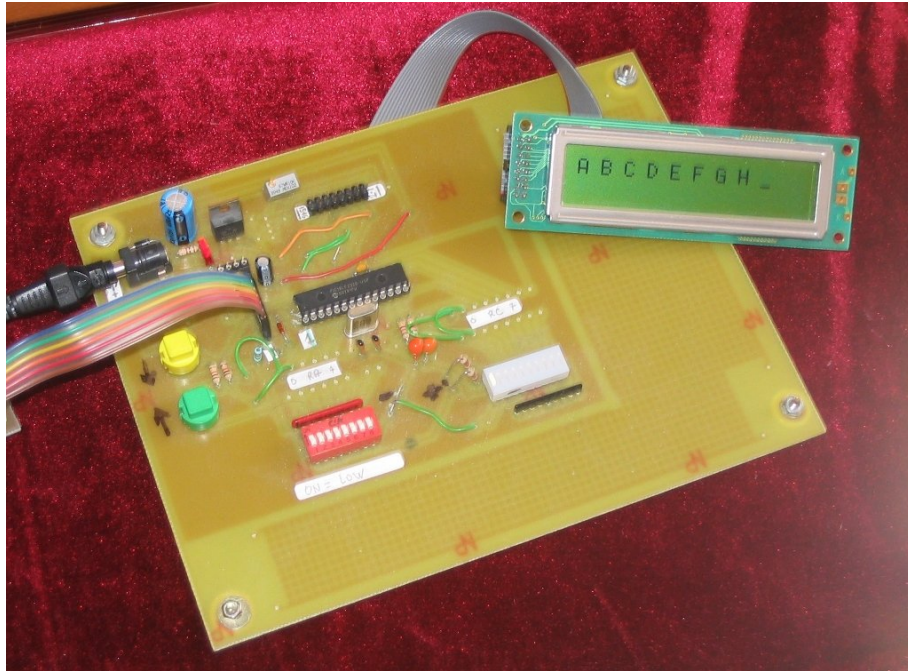

Figure 1: Result of the very first program compiled by `cpik` ever executed
- Any source library is a simple text file, so it can be manually written in assembly language, using a standard text editor (this point is important to bootstrap a totally new development environment). For example, the LCD library has been developed from scratch with a text editor as unique tool, and has been used to support the very first program3 compiled with `cpik` ever executed (see figure 1).